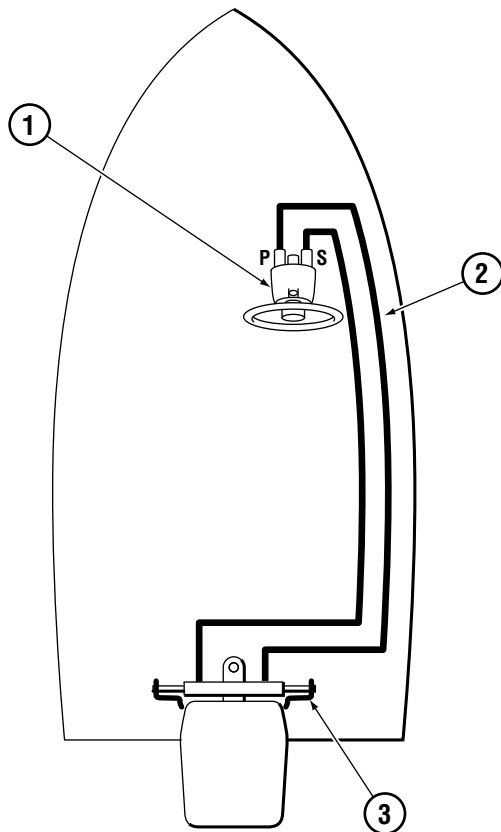

Figure 22.
- See figures 22 through 25 on the following pages to locate your plumbing diagrams.